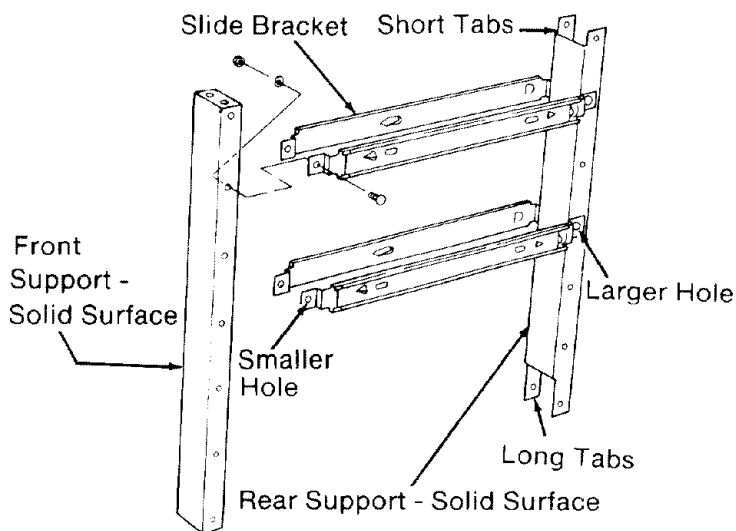

Fig. 41
sure that you attach the larger hole in each *slide bracket* to the *rear support*. Put a lock-washer and hex nut on each bolt and tighten using a 7/16 wrench or socket. (Figure 41)
29. Attach the *front support* to the four *slide brackets* using four truss head bolts. Make sure that the solid surface of the *front support* is facing front. Put a lockwasher and hex nut on each bolt and tighten with a 7/16 inch wrench or socket. (Figure 41)